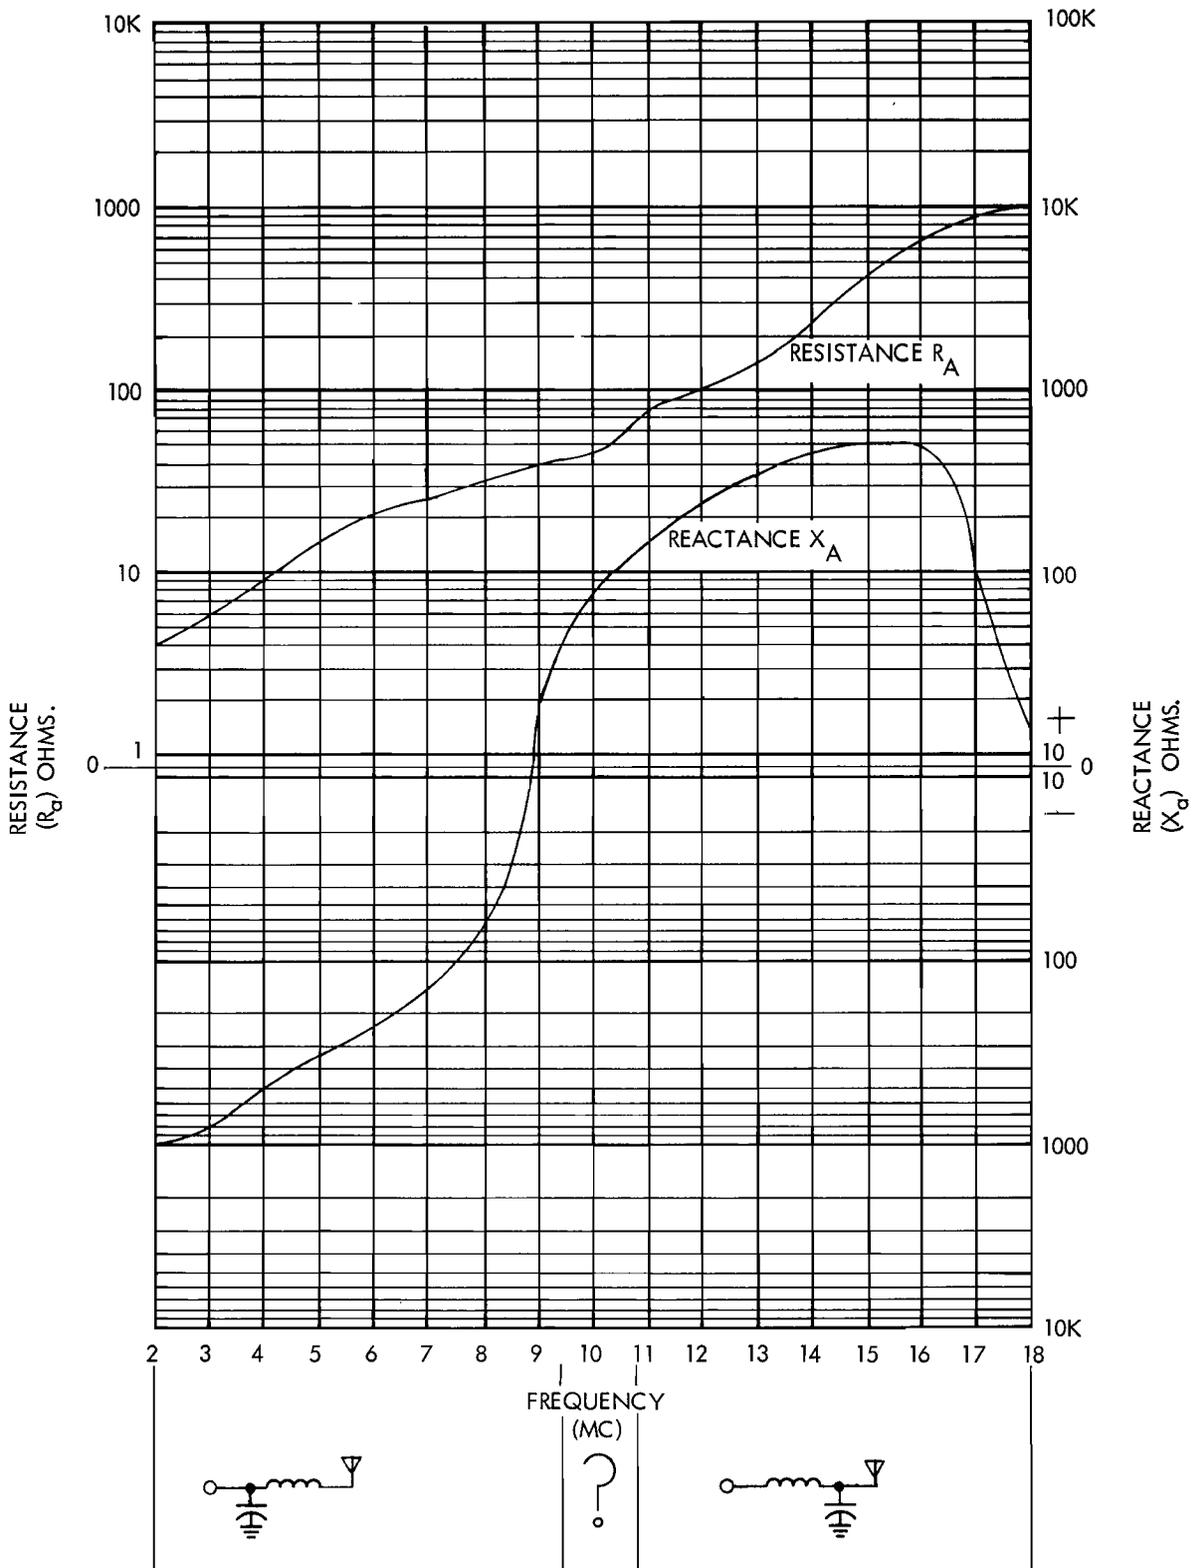

Figure 4-13. Reactance Chart for Unloaded 24-Foot, Fiberglass, Whip Antenna
To program the Antenna Coupler, it is necessary to know something about the antenna to be matched. Three charts (Figures 4-13 through 4-15) are given with this alignment procedure, each for a different antenna commonly used on small boats.
- b. Refer to the chart (Figures 4-13, 4-14, and 4-15) for the desired antenna.
- a. Refer to Figure 4-13; note that  $R_A = 15$  ohms and  $X_A = j-370$  ohms at 5 Mc.